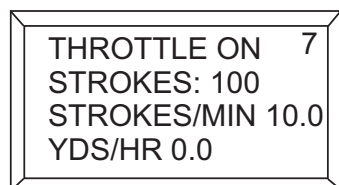

Figure 28. Strokes Per Minute Display
3. Scroll through the **Digital Readout Screen** with the scroll switch to go to Screen 7 (Figure 28). This screen will show the volume in strokes per minute.